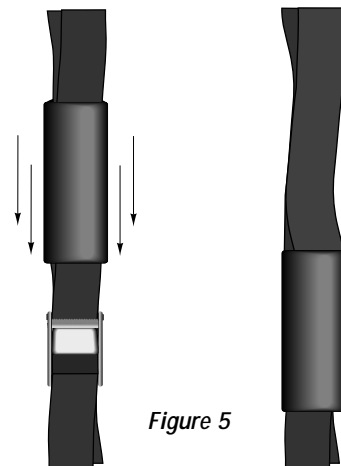

Figure 5
13. Slide the security strap rubber sleeve over the metal buckle to prevent the buckle from damaging your vehicle's finish. See figure 5. **ALWAYS SECURE SAFETY STRAP WITH SLEEVE OVER THE BUCKLE!**